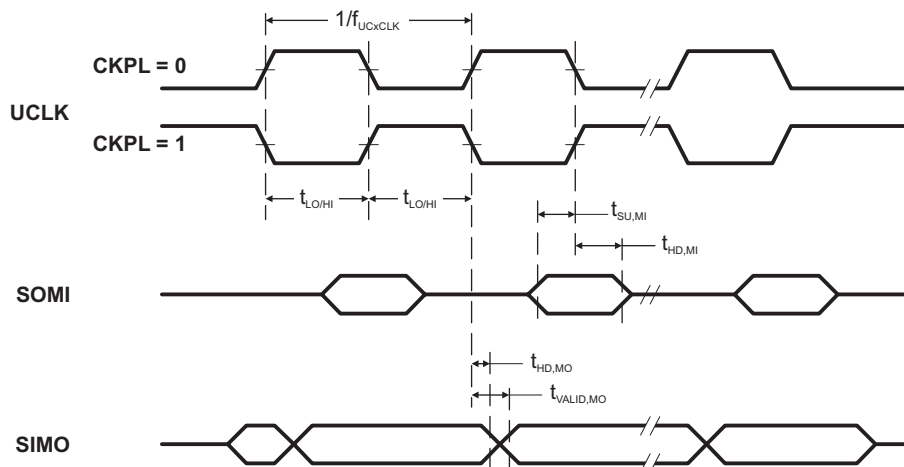
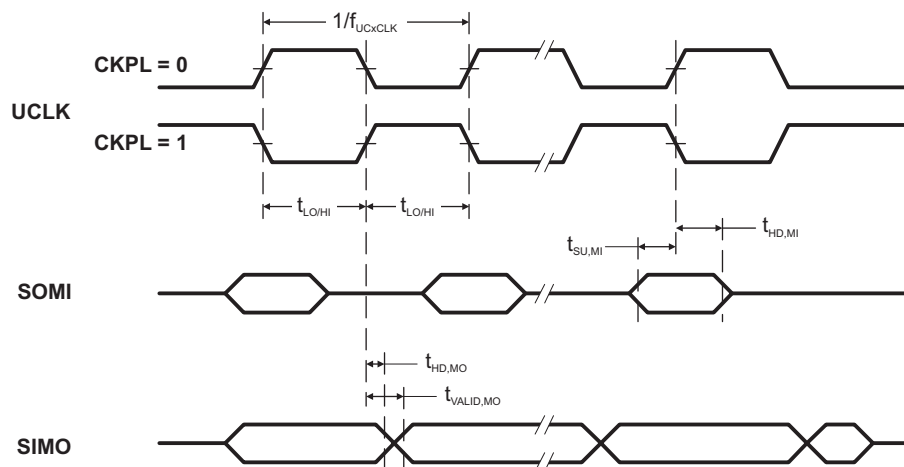

Figure 5-11. SPI Master Mode, CKPH = 0
Figure 5-12. SPI Master Mode, CKPH = 1
(see Figure 5-11 and Figure 5-12)
- (1) f_{UCxCLK} = 1/2t_{LO/HI} with t_{LO/HI} ≥ max(t_{VALID,MO}(USCI) + t_{SU,SI}(Slave), t_{SU,MI}(USCI) + t_{VALID,SO}(Slave)). For the slave parameters t_{SU,SI}(Slave) and t_{VALID,SO}(Slave), see the SPI parameters of the attached slave.
- (2) Specifies the time to drive the next valid data to the SIMO output after the output changing UCLK clock edge. See the timing diagrams in Figure 5-11 and Figure 5-12.
- (3) Specifies how long data on the SIMO output is valid after the output changing UCLK clock edge. Negative values indicate that the data on the SIMO output can become invalid before the output changing clock edge observed on UCLK. See the timing diagrams in Figure 5-11 and Figure 5-12.